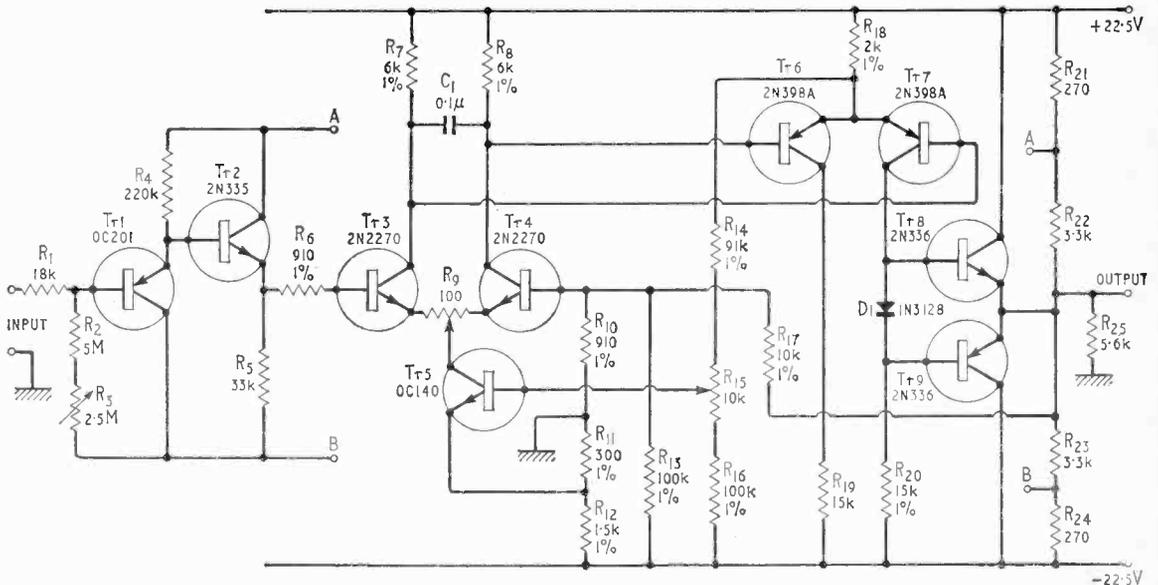

Fig. 1. Circuit diagram of complete amplifier.
In order to provide thermal compensation for  $V_{be}$  changes, a second complementary emitter follower is used (see Fig. 1). Perfect matching is unlikely to be achieved, but thermal effects will be minimized.
**Main Amplifier:**—This consists of two complementary long-tailed pairs (l.-t.p.) with two feedback loops; one to increase common-mode rejection3 and the second to stabilize gain4. The loop for improved common-mode rejection operates as follows (see Fig. 1). A change in the voltage across the emitter resistor of the second l.-t.p.,  $R_{18}$ , causes a change in voltage on the base of T5 (the constant-current generator of the first l.-t.p.). This causes a change in current through T5, i.e. through transistors T3 and T4, and thus causes a voltage variation across  $R_7$  and  $R_8$ . This voltage variation appears on the bases of T6 and T7 and is of such polarity as to oppose the original change in the voltage across  $R_{18}$ . This reduction in change of voltage at the emitter of each l.-t.p. is such as to raise the parallel resistance to the equivalent current generator by the amount of feedback. Common-mode rejection is also increased by the same ratio.